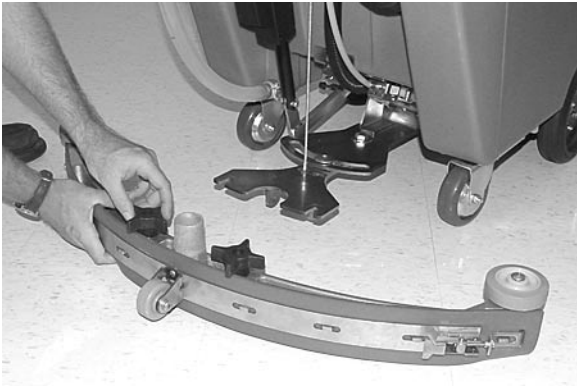

FIG. 4
3. Loosen two thumb knobs on squeegee assembly and slide squeegee into slots on squeegee mount bracket (Figure 4).